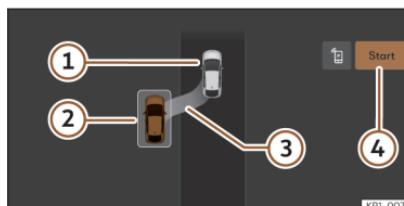
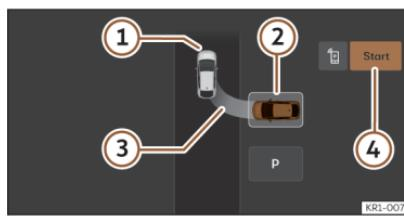

Fig. 141 On the infotainment system display: parallel parking position.
Fig. 142 On the infotainment system display: parking bay parking position.
>>> Fig. 141, >>> Fig. 142
- ① Your vehicle
- ② Parking space detected
- ③ Indication showing the proposed parking manoeuvre
- ④ Start parking manoeuvre
• Look at the display on the infotainment system's screen to see if the space has been detected as "appropriate" and if the correct position for parking has been reached **>>> Fig. 141, >>> Fig. 142**. Stop the vehicle and follow the instructions shown on the infotainment screen.
• Stop the vehicle, press the brake and, after a short pause, press the **Start** **④** button in the infotainment system.